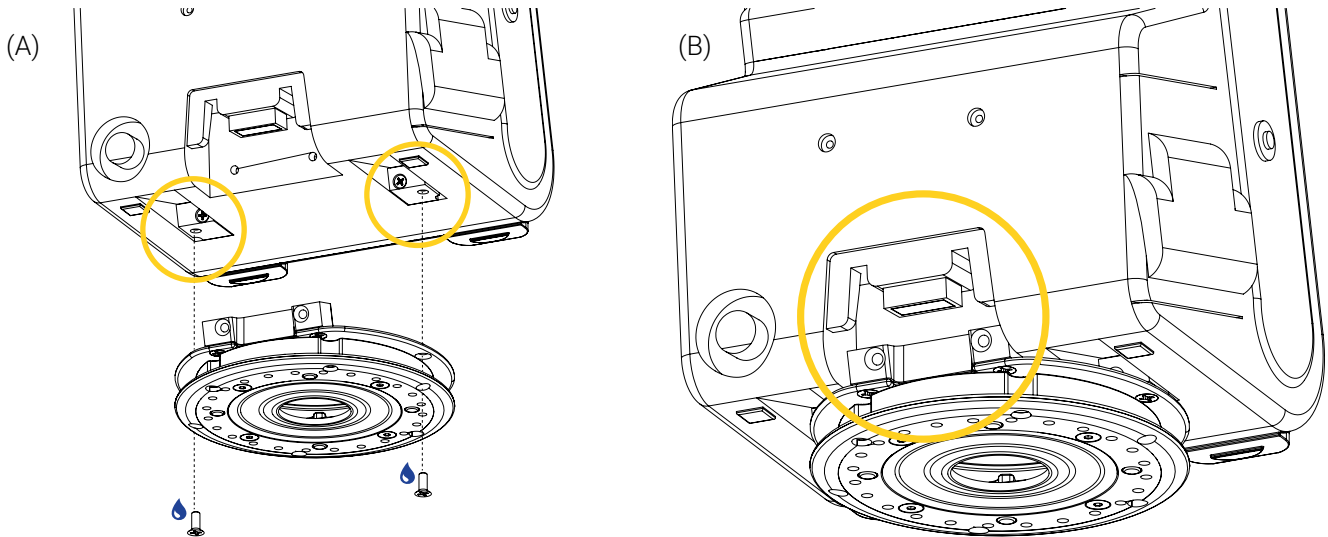

Figure 13: Installing the medical device on the support bracket
- Align and install the medical device vertically on the support bracket (Figure 13 A) using the two (2) 10-32 x 1/2 in. flat head screws that were set aside in step 3, thread lock adhesive and a Phillips screwdriver.
NOTE : In the correct orientation, the rear mounting block on the support bracket will fit in the groove located at the back of the medical device (Figure 13 B).